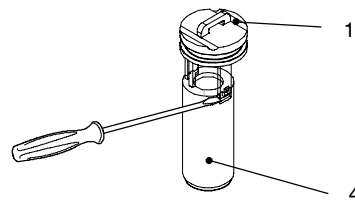

Fig. 4
- 2 Separate the flow switch plug 1 from the body 4 (Fig. 4) levering with a screwdriver one of the two hooks.